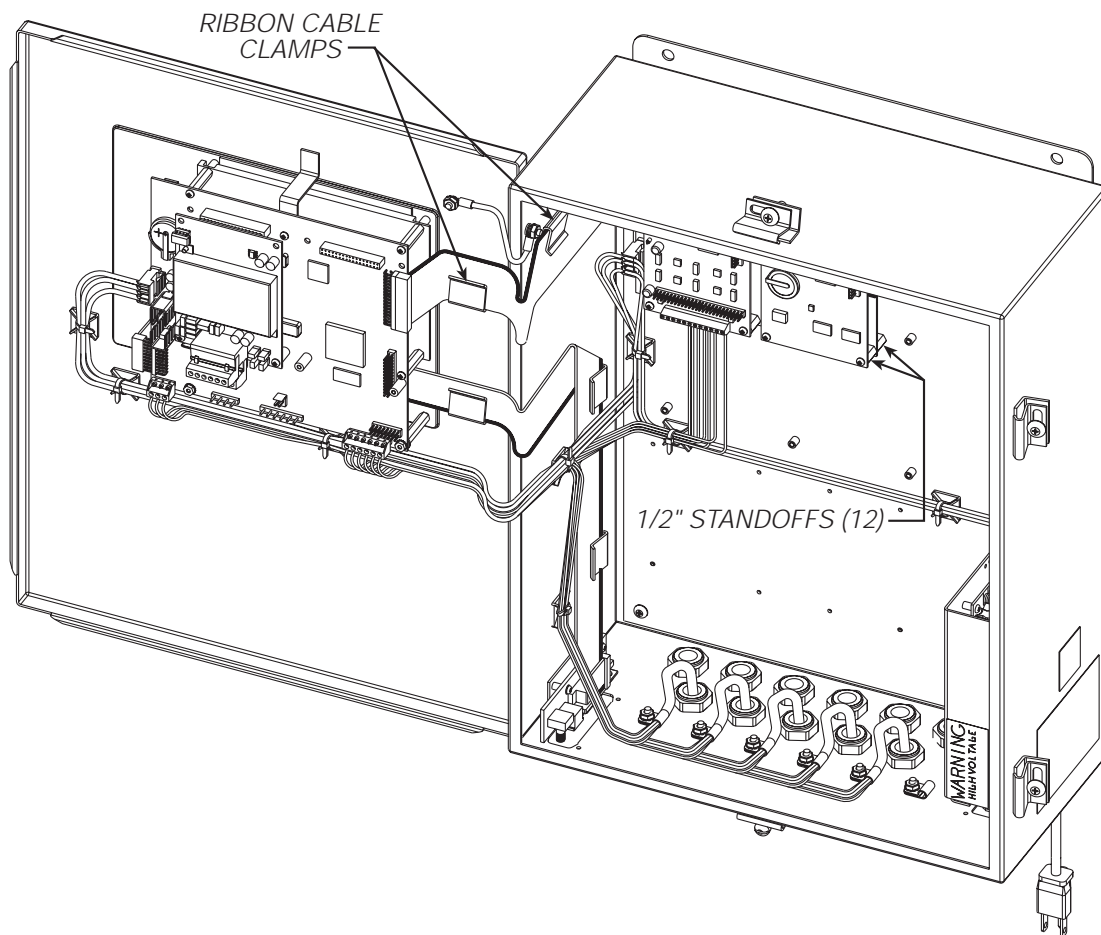
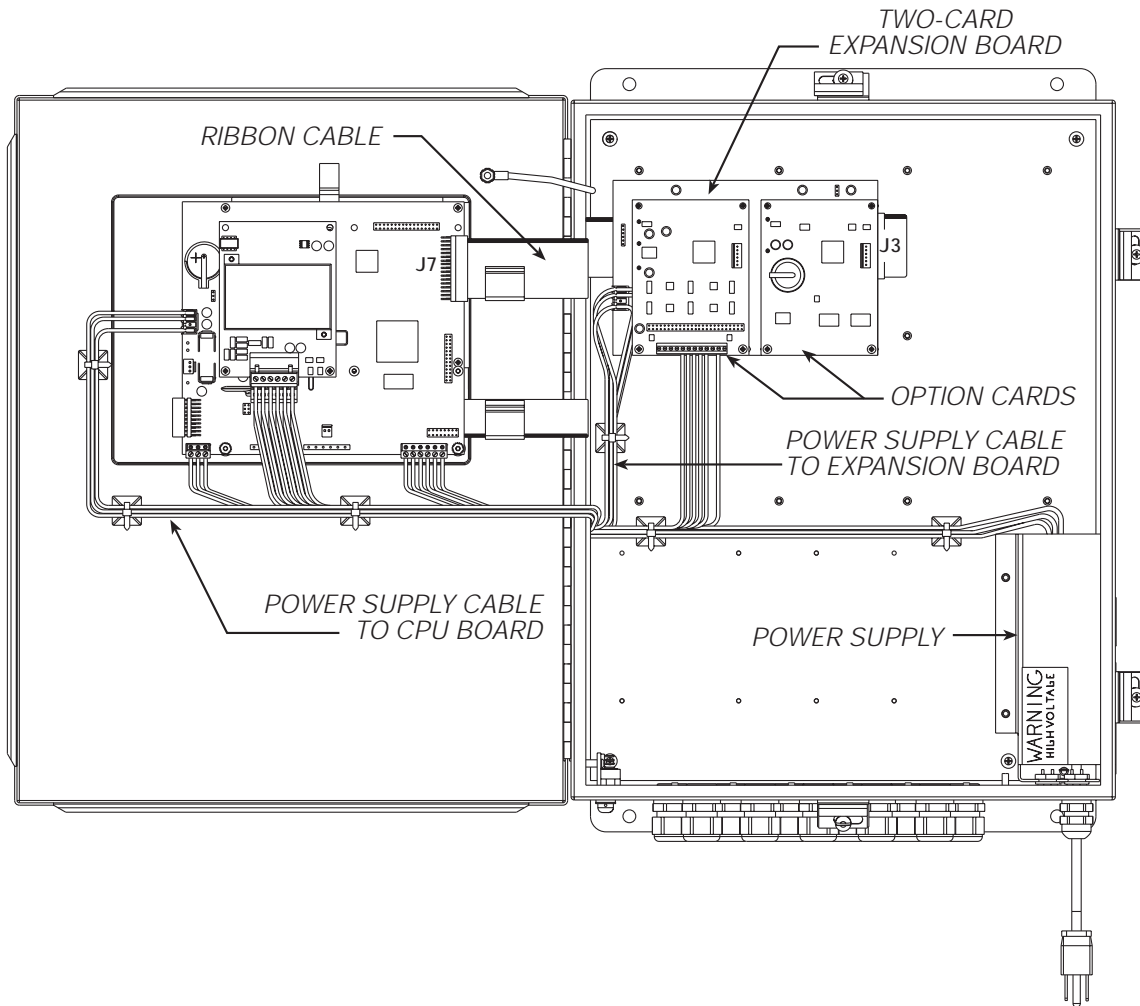

Figure 3. Two-Card Expansion Board Installed in Wall Mount Enclosure, Isometric View
Figure 4. Two-Card Expansion Board Installed in Wall Mount Enclosure
Use the following procedure to install the two-card expansion board in the wall mount enclosure. See Figure 3 below and Figure 4 on page 4 for locations of option kit components.
5. Remove adhesive covering from two ribbon cable clamps and install on door and side wall of enclosure (see Figure 3).
6. Attach ribbon cable to connector J7 on the CPU board. Slide the ribbon cable into the cable clamps and extend cable to full length. (Ribbon cable attaches to right side of installed expansion board. See Figure 4 on page 4).